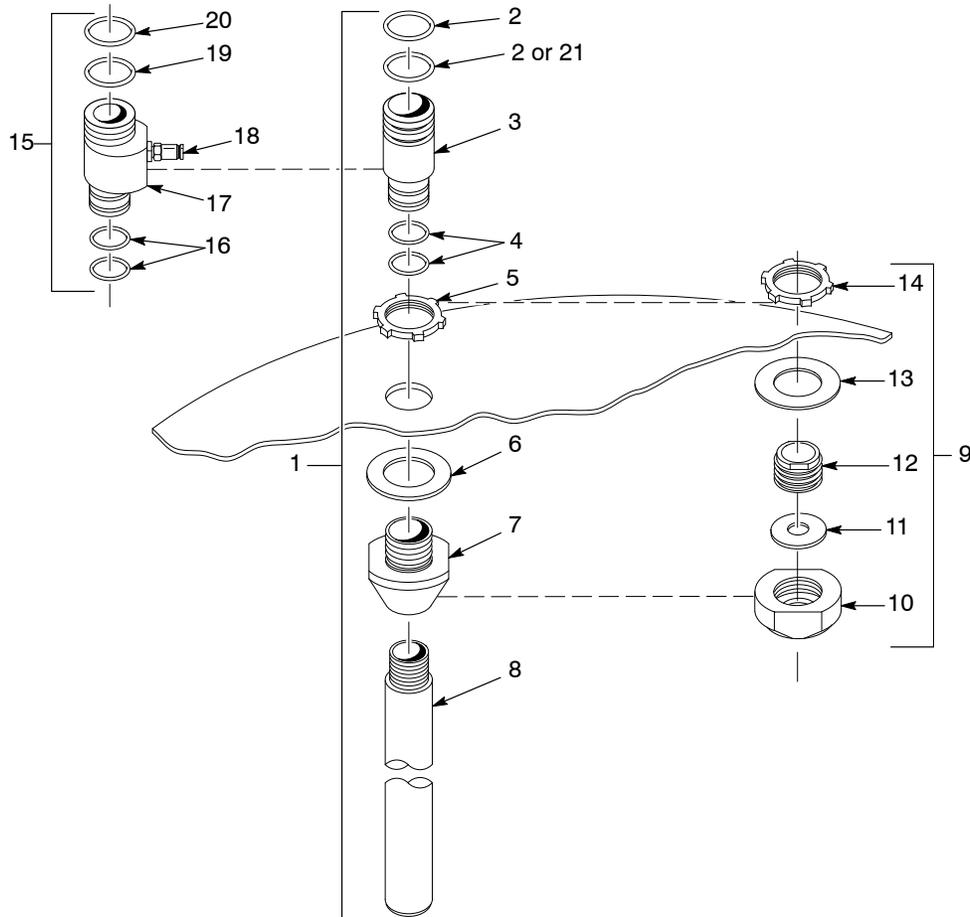

Figure 5 Pump Mount Kits and Optional Purge Mount Kits
See Figure 5.
See Figure 5. These kits are used for the system purge option and can only be used with the 8-mm corona pump, part 344251.
B: This kit replaces items 5, 6, and 7 of the pump mount with pick-up tube kit illustrated in Figure 5.
C: This kit replaces items 2, 3, 4, and 21 of the pump mount with pick-up tube kit illustrated in Figure 5.